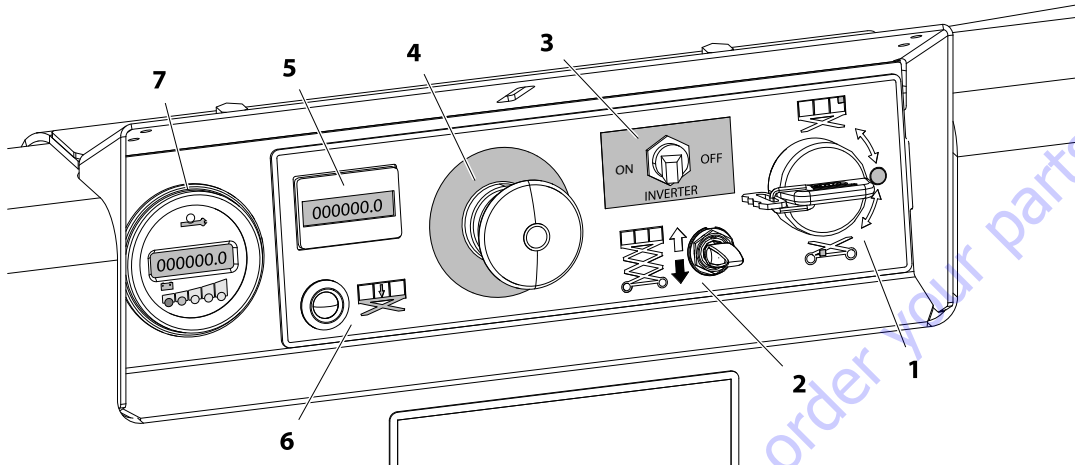

Figure 3-7. Ground Control Station - Folding Cover
Set the master power switch (*item 5*) on the side of the inverter unit to ON and leave it there. Use the inverter on/off switch at the Ground Control panel (see Figure 3-7., *item 3*) to power the inverter on and off, via the DC power contactor relay (*item 6* in illustration below).